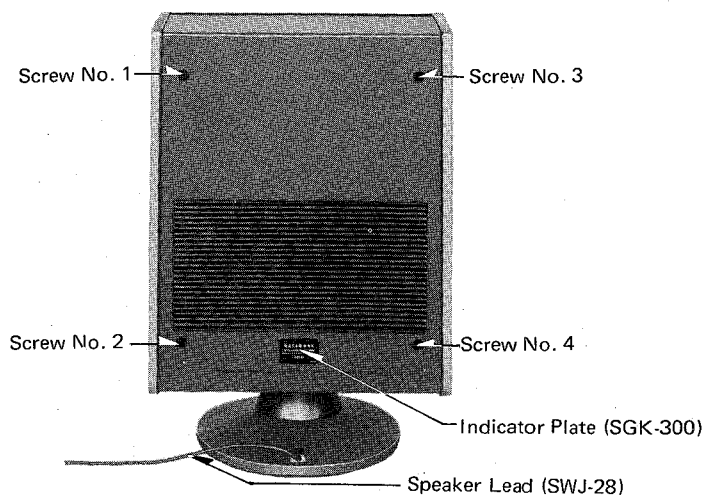

Fig. 5
To Remove Speaker (Refer to Figs. 5 & 6)
1. Remove four (4) rear cover mounting screws, Nos. 1-4, as shown in Fig. 5.
To Remove Baffle Board (Refer to Figs. 5 & 6)